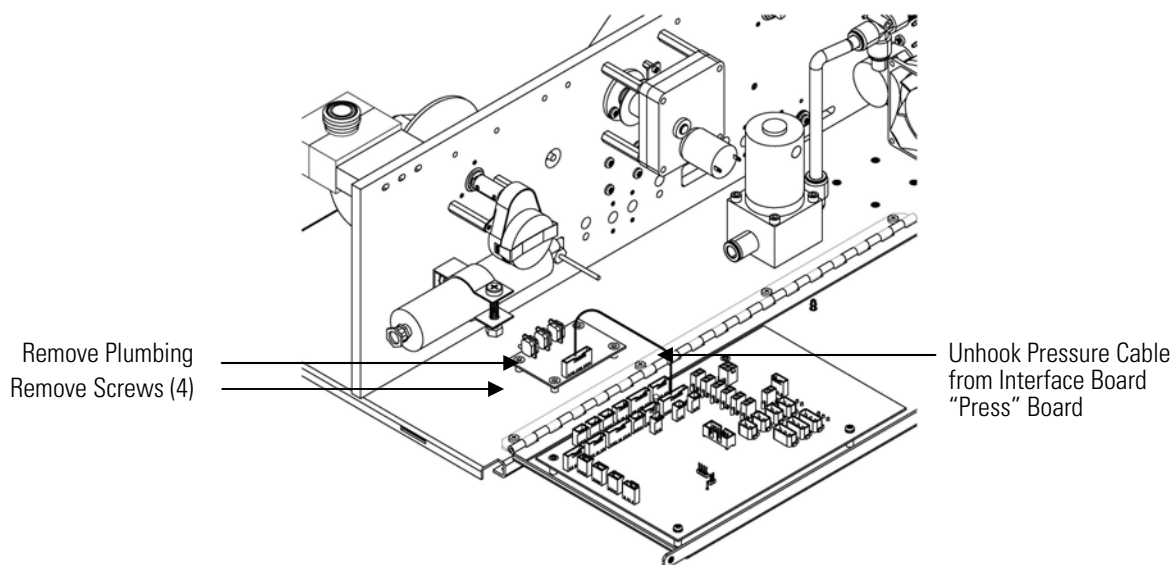

Figure 7-7. Replacing the Pressure Board Assembly
4. Remove the four pressure board assembly retaining screws and remove the pressure board assembly (Figure 7-7).